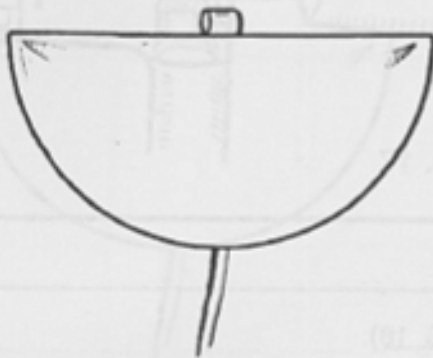

FIG. 13
- 16) Lay the pilot chute out flat with the mesh side up. Fold the excess bridle on top of the layed out parachute, and fold the pilot chute in half over the bridle (FIG. 13). Now fold the curved side up about 4" (FIG. 14).